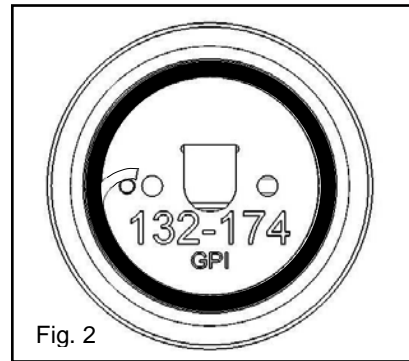

Fig. 2
**3. Pre-Installation (Figure 2):**
- c. Ensure O-ring is properly seated within O-ring groove as shown in Figure 2.
- d. **Important:** Verify proper operational frequency, as labeled. (Figure 2).